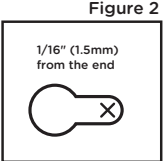

Figure 2
- 5) Place the switch in the desired location and clearly mark the locations for the two mounting holes. See **Figure 2**. Make sure the 2-pin connector is facing the direction of the first light fixture and the 3-pin connector is facing the direction of the closest electrical outlet.